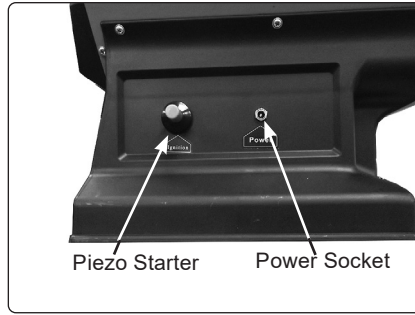
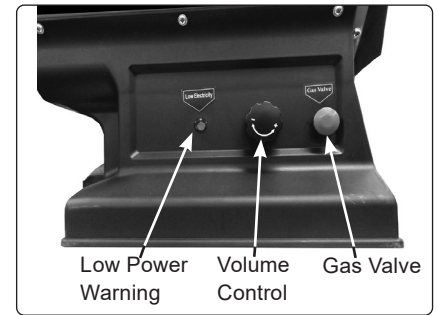

fig.4
fig.5
- 5.1.2. With the gas supply on (Section 4.1.6) and the Gas Valve (fig.5) depressed, click the piezo igniter button (fig.4) repeatedly until the gas is heard to ignite.